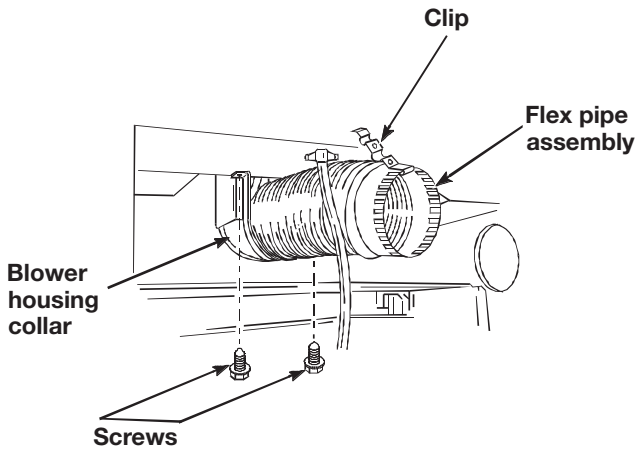

Figure 3
4. Install new flex pipe assembly to the blower housing collar. Place clip on end of the flex pipe. See Figure 3.